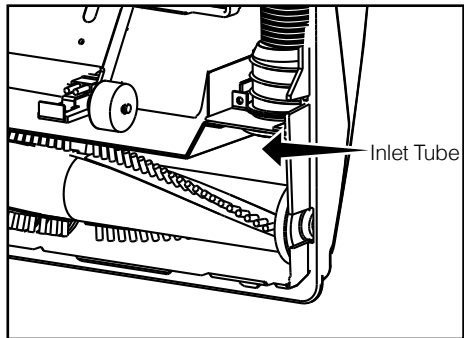

Fig. 2
- Turn the vacuum over and remove the bottom plate (See page 18). Check the nozzle inlet tube for obstructions (Fig. 2). Clear the tube and reinstall the bottom plate.